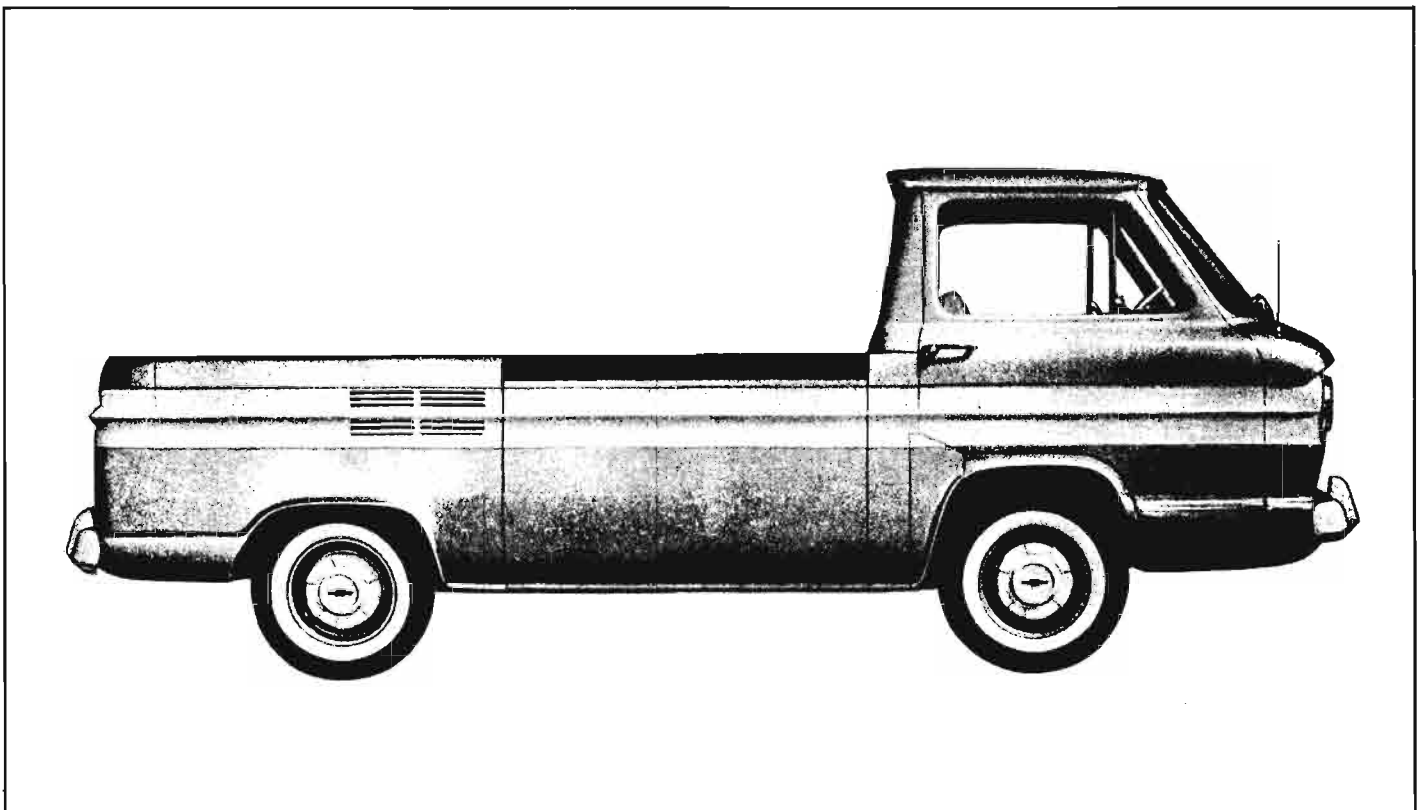

Fig. 10-4a—Rampside Pickup—Model—R-1254
- Rampside pickup, model R-1254 (fig. 10-4a) is identical to Loadside model except for a rampgate in the right hand pickup box side.
The rampgate is comprised of an inner and outer panel reinforced with internal transverse and longitudinal Strainers. Full-width embossed ribbing is incorporated on the inner panel. The gate is attached to the right hand side panel at the bottom with a full-width, concealed piano type hinge. Gate retention is by slam-type locks at the upper left and right hand corners of the inner panel. A full-length, hard rubber bumper caps the top edge of the gate (fig. 10-4a).